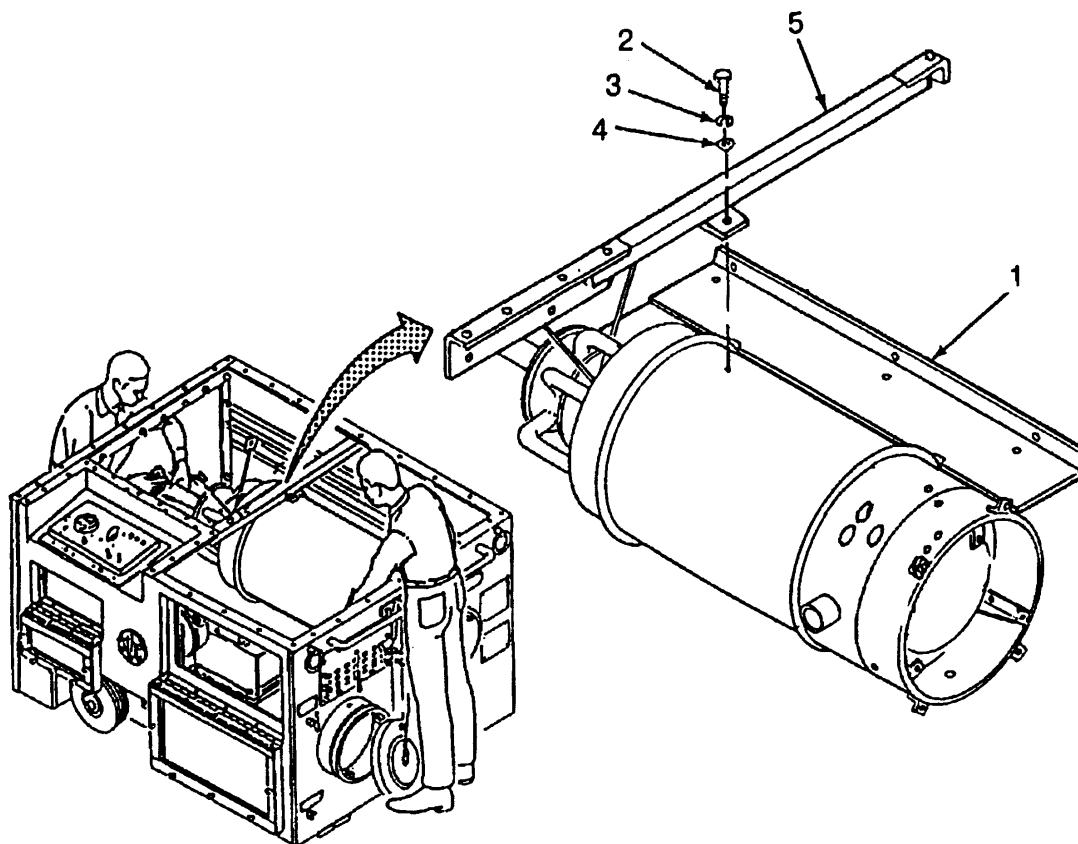

Figure 5-12. Heat Exchanger, (Model H120) Removal
- a. Removal - continued (Refer to Figure 5-12)